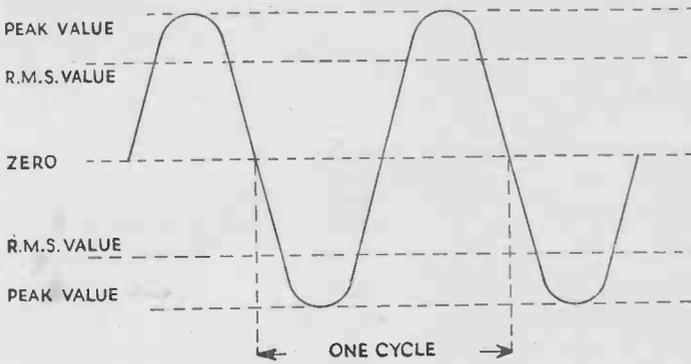

FIG.2
The graph of an alternating current is shown in *Fig. 2*—the same curve also serves to show an alternating voltage. Note that the current changes are not abrupt; the current starts at zero, rises to a maximum, falls back to zero then reverses its direction and again rises to a maximum and so on. A complete round of operations from zero current to reversal at zero back to zero current is called a "cycle" and the alternating mains have a "frequency" of 50 cycles per second or 50 c.p.s.
4. For mathematical and mechanical reasons the shape of the wave in Fig. 2 is called a "sine wave", and these facts refer only to sine waves. There are other wave shapes of various kinds, but in radio work we are concerned chiefly with smooth, regular sine waves or very irregular waves such as are produced by a microphone. These irregular waves are called "speech" or "sound waves," or "low frequencies," and their shapes are really electrical copies of sound waves in air.